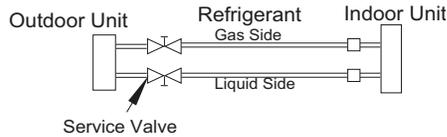

Fig. 20 – Service Valves
1. Completely tighten the flare nuts of the liquid and gas pipes on the indoor and outdoor side (for all fan coils) (see Fig 20).